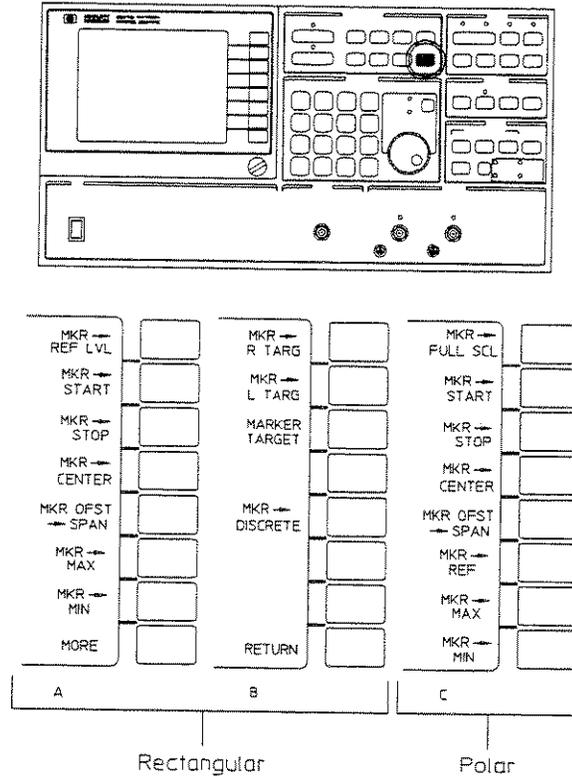

Figure 4-26
**MARKER →** is a hardkey in the DISPLAY FORMAT section of the front panel that displays the menus of softkeys shown in figure 4-26. Some of these softkeys are for entering data corresponding to the position of the marker. Others move the marker to points of interest.